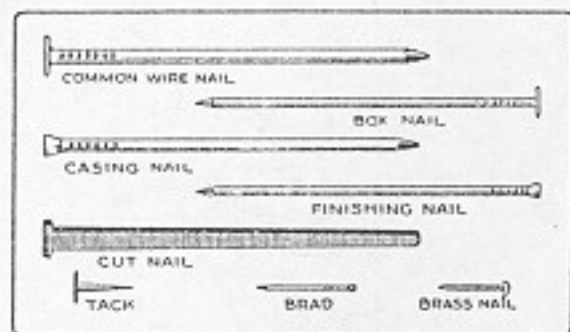

Fig. 278. Nails.
2. Wire nails are made either with a large, flat head or with a very small head. The former are called common wire nails, box nails, etc., and the latter are called casing nails, brads, or finishing nails (Fig. 278).